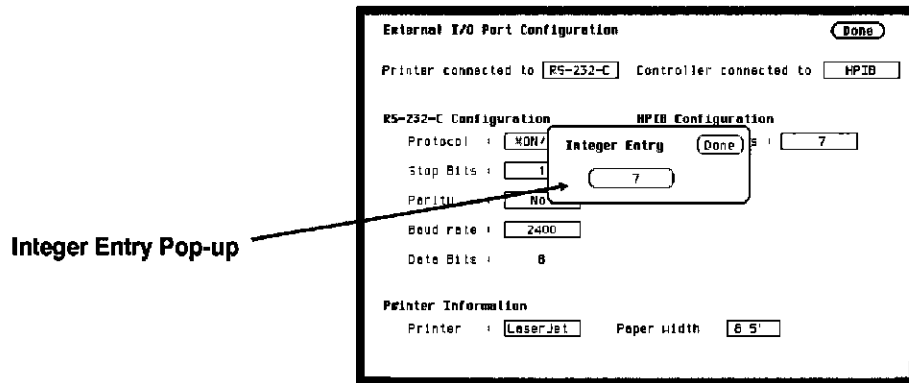

Figure 5-15. Integer Entry Pop-up
1. Select the **External I/O Port Configuration** menu and place the cursor in the field directly to the right of **HP-IB Address**. Press **SELECT** and an **Integer Entry** pop-up appears. See figure 5-15.